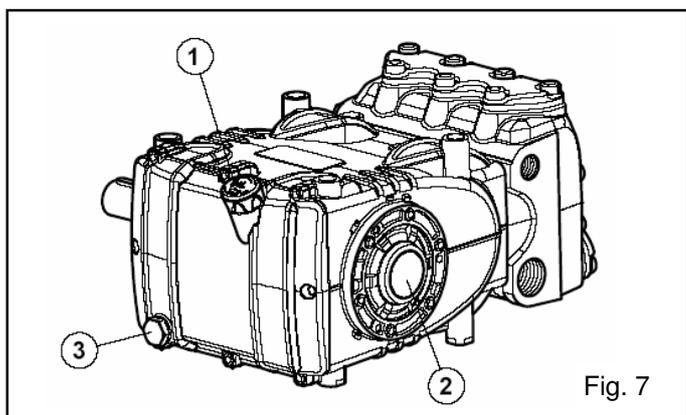

Fig. 7
7. Make sure of the correct oil level using the dipstick (position 1 fig. 7) and exceptionally the oil sight glass (position 2 fig. 7)